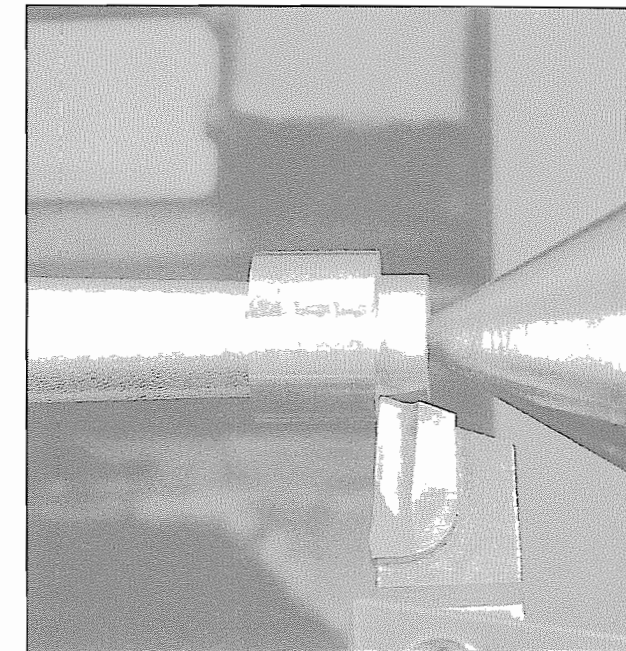

Figure 4-45. The workpiece is reversed, and the carriage feed is used to trim down the tip.
11. When you're finished, turn the lathe off, loosen the chuck, and reverse the workpiece, so that the base end is mounted in the chuck, and the tip is supported by the live center. Retighten the chuck, take up any slack with the tailstock screw, and use the carriage feed to trim down the last bit of metal on the tip (Figure 4-45).